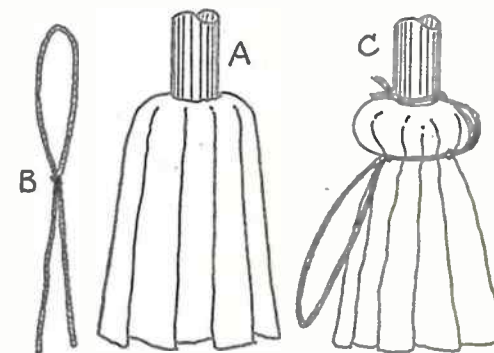

Fig. 2
strips of rag are cut to an approximate length of 15ins., and have a slot about 1in. long cut in their centres to slip over the broom handle. Squares of material can be also utilised, slotted at their centres, and cut into strips, the cuts finishing some 2ins. short of the slots. Push these over the handle and press down until they fall over the disc, as shown at Fig. 2 (A).
Both the top and bottom are 6in. by 3in. pieces cut from $\frac{1}{4}$ in. sheet, the top having a fretted-out slot as shown in Fig. 1. The ends are cut from $\frac{1}{4}$ in. sheet, the holes being drilled first as in Fig. 2. The sides are from $\frac{1}{4}$ in. sheet. The large hole in end (A) should be opened out with a round file (or glasspaper wrapped around a pencil) to fit a small cork of the